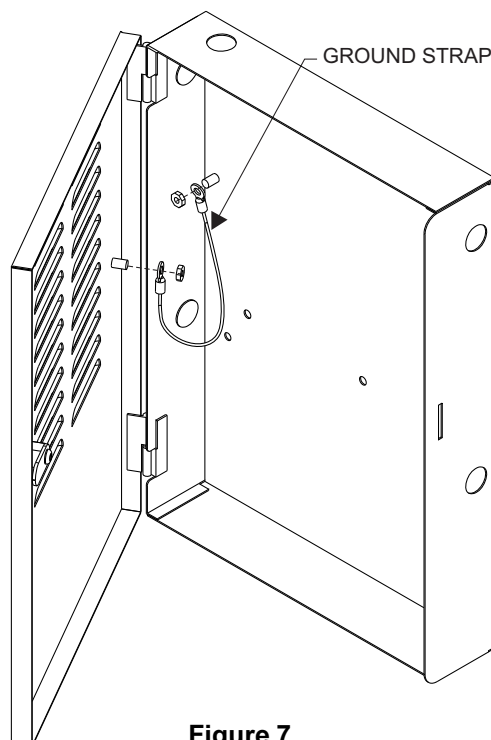

Figure 7
2. Install the ground strap on both the door and backbox (See Figure 7).